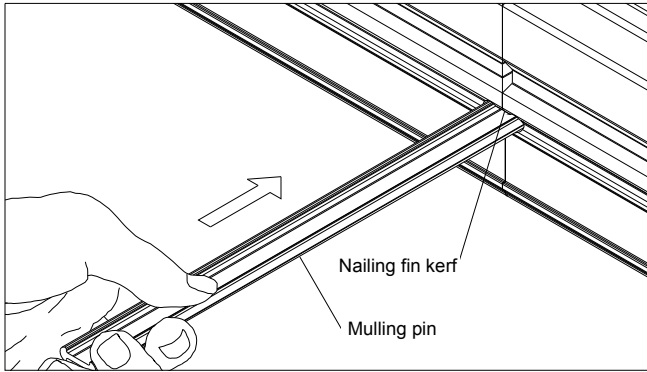

Figure 7
3. With frames in the desired mulling configuration (interior facing up) clamp units together on interior near each end of the mullion (use scrap blocks to protect interior wood frame members). Slide aluminum mulling pin into nailing fin/drip cap kerf as shown in figure 7. Make sure mulling pin is recessed 1/4" to allow for sealant placement later.